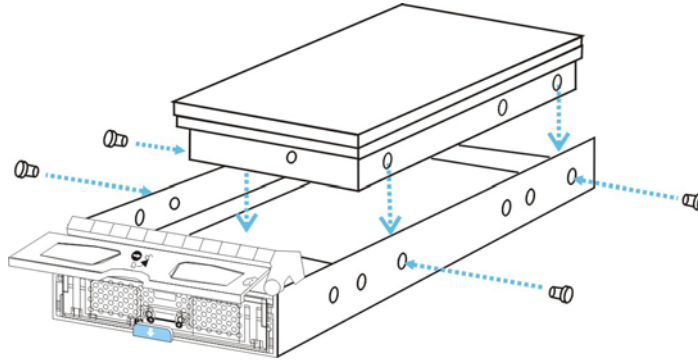

Figure 2-4: Installing a SATA Hard Drive
- Step 1. *Place the SATA hard drive into the drive tray* (as shown in **Figure 2-4**) making sure that the hard drive is oriented in such a way that the drive's SATA connector is facing the back of the drive tray.
- Step 2. *Adjust the drive's location* until the mounting holes in the drive canister are aligned with those on the hard drive. Secure the drive with four supplied 6/32 flathead screws. (See **Figure 2-4**)